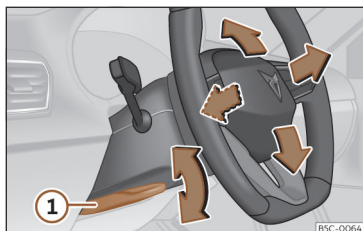

Fig. 93 Lever in the lower left side of the steering column.
- Pull lever >>> **Fig. 93 ①** down, move the steering wheel to the desired position and lift the lever back up until it locks.
- After adjusting the steering column, push lever >>> **Fig. 93 ①** firmly upwards so that the steering wheel does not accidentally change position while driving.